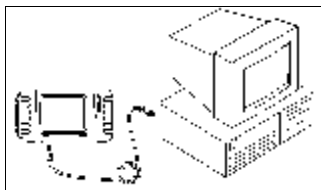

Fig.2.11
② Connect **Star** and PC with the network cable as shown in Fig. 2.11.